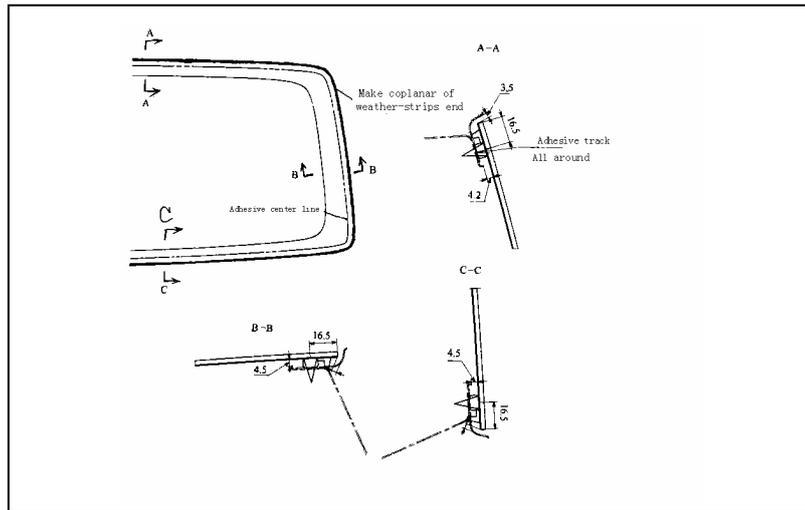

Fig. 19-27
① Clean and degrease the surface of tail door glass where to be applied adhesive and to be attached dual lock fastener.
② Install the weatherstrip according to the following sequence: Both side Weather-strip, Upper weather-strip upper, Lower weather-strip, location and relations installed is shown in Fig. 19-27.